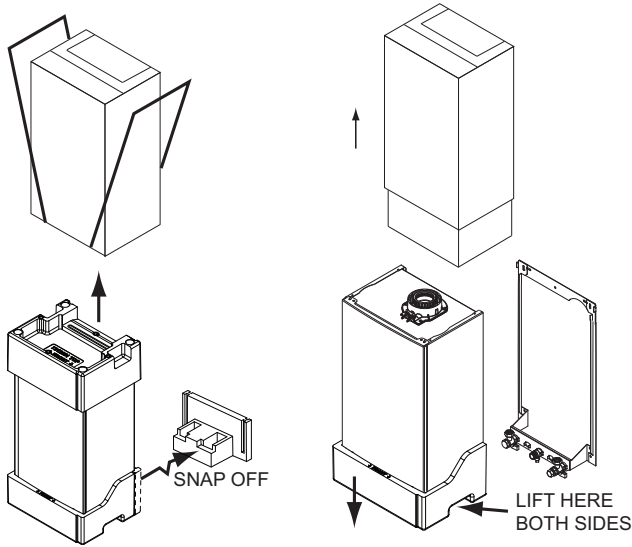

Fig. 13
2. Follow the procedure on the carton to unpack the boiler or see Fig. 13.